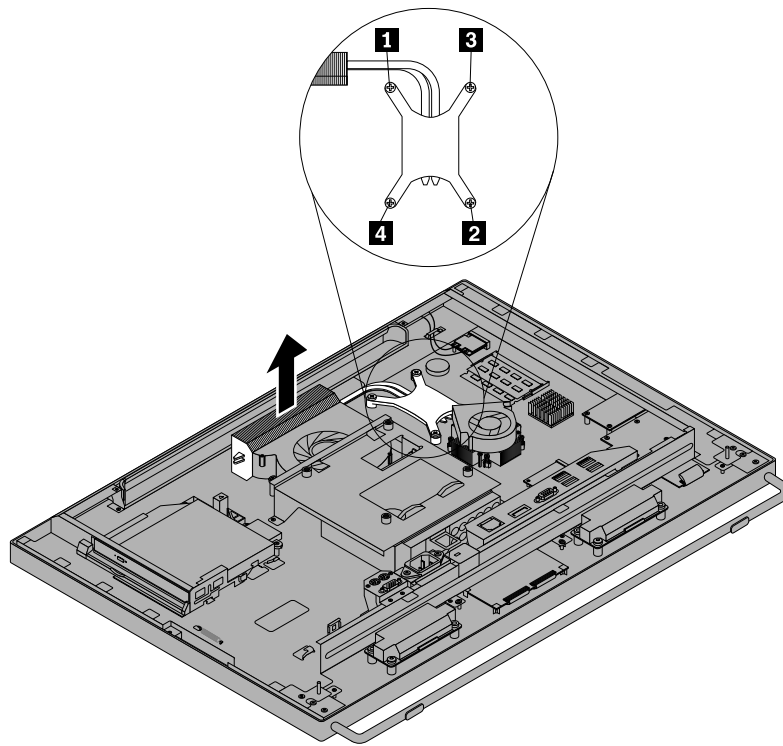

Figure 24. Removing the heat sink
8. Follow this sequence to install the four screws to secure the heat sink, as shown in Figure 24 “Removing the heat sink” on page 93.